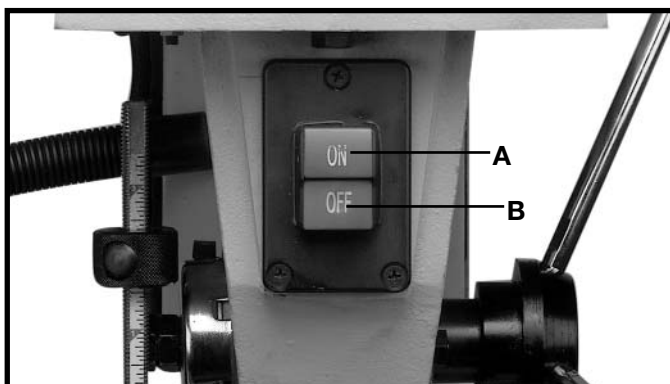

Fig. 17
The power switch is located at the front of the drill press head. To turn the drill press "ON", press the green start button (A) Fig. 17. To stop the drill press, push the red button (B).